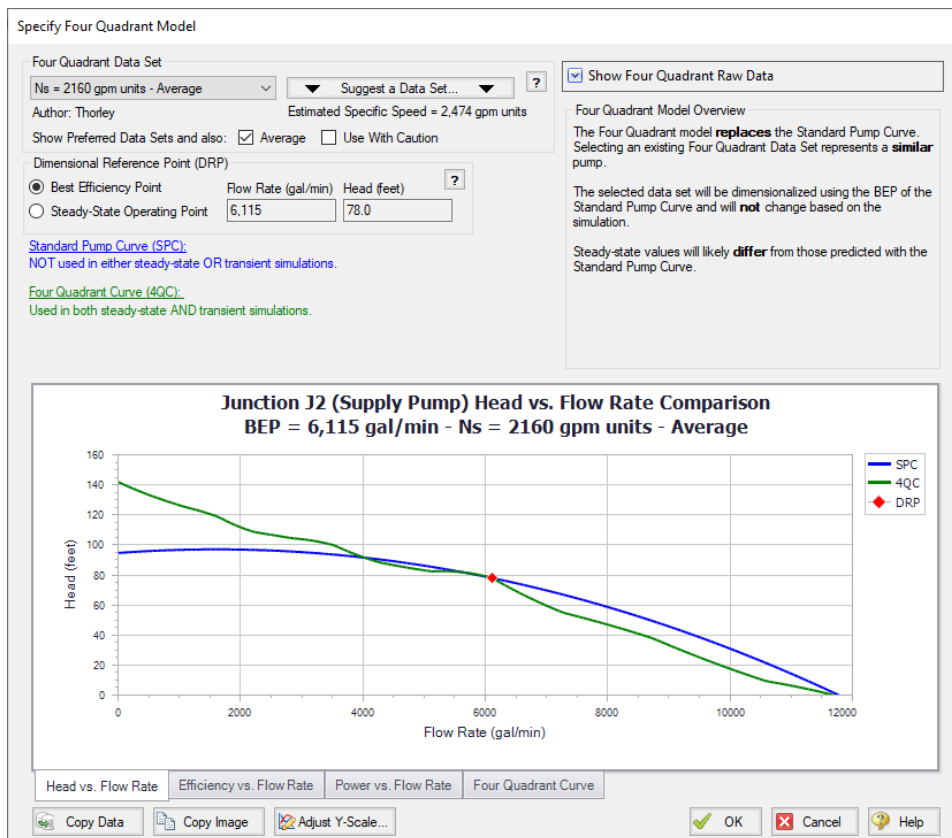
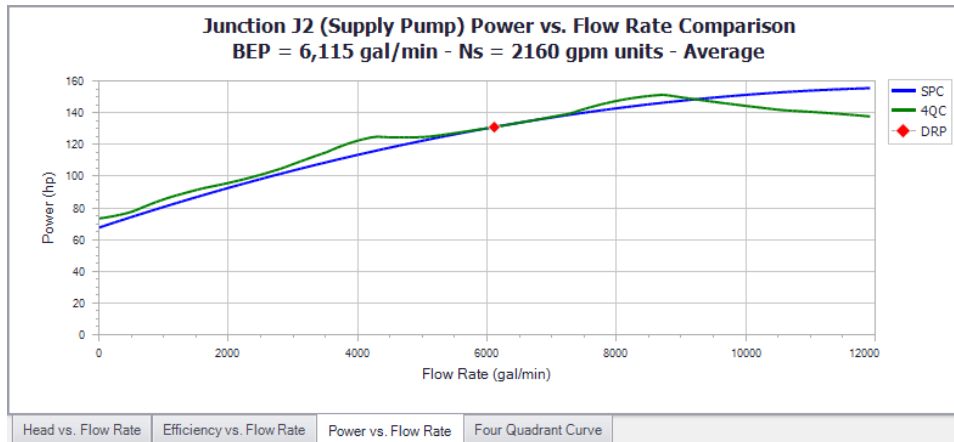

Figure 7: Specify Four Quadrant window showing the Head vs Flow data for the Ns = 2,160 data set dimensionalized using the BEP
Figure 8: Power vs Flow graph from the Specify Four Quadrant window for the Ns = 2,160 gpm units data set dimensionalized using the BEP
1. In the current Four Quadrant Curve Scenario check that BEP is selected for the DRP (dimensional reference point). Note that the head, efficiency, and power curves versus flow can be seen plotted against the Standard Pump Curve (referred to as the manufacturer's curve for this example) at the bottom of this window, as shown below for head in Figure 7 and power in Figure 8.
Note: The raw data from the graphs shown in the Specify Four Quadrant Model window (Figure 7 and Figure 8) can be copied using the Copy Data button at the bottom of the window to compare this data for all scenarios in Microsoft Excel.
Each individual four quadrant curve can be compared to the manufacturer's curve within the Specify Four Quadrant Model window in Impulse, as was seen above in Figure 7 and Figure 8 for the 2,160 gpm units data set. Each four quadrant curve will intersect the manufacturer's curve at the dimensional reference point, which is shown in red (6,115 gal/min, see Figure 4 BEP). For the head, power, and efficiency curves we will want to check how similar the shapes of the curves are and how close they are to each other. Focus should be given in particular to how well the curves match near the initial and final steady state flow rates, as this will indicate how different those operating points will be.